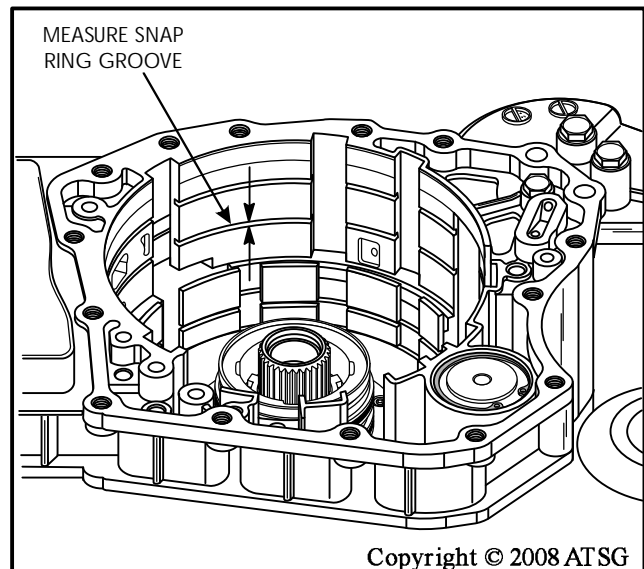

Figure 82
36. Measure width of the low/reverse clutch snap ring groove, as shown in Figure 82, using a dial caliper.